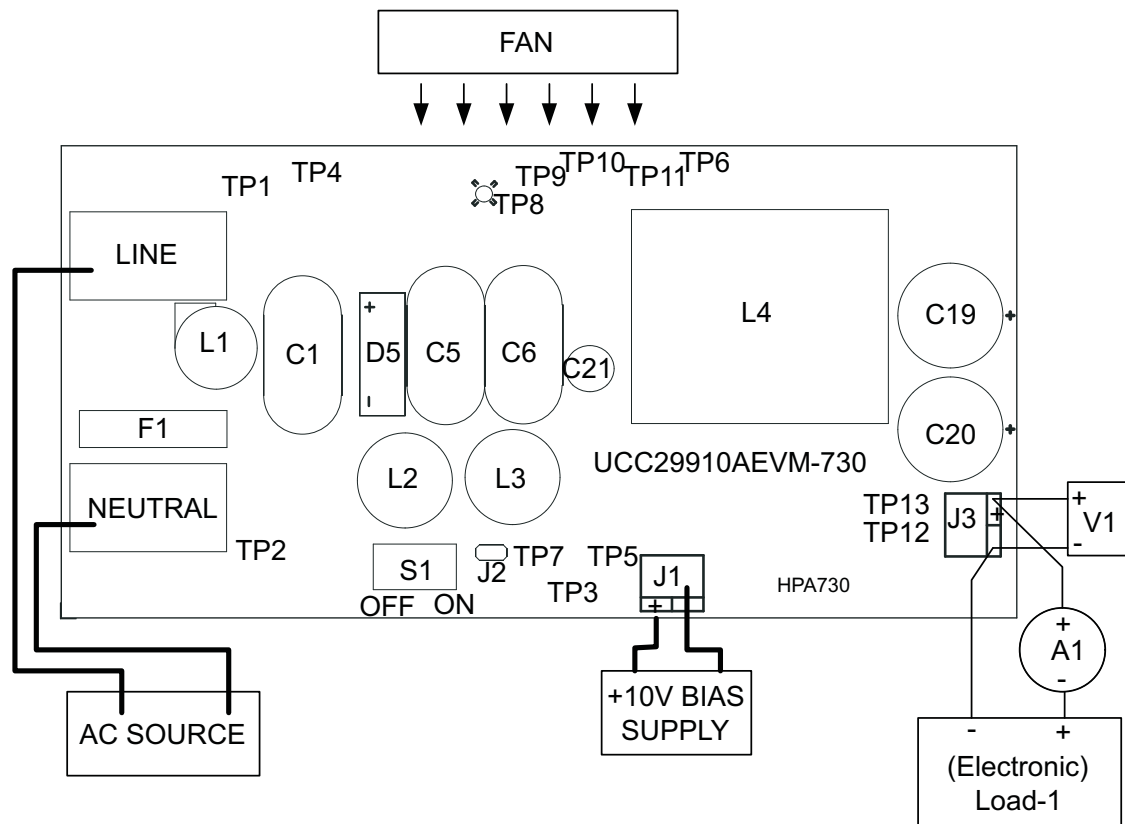

Figure 2. UCC29910AEVM-730 Recommended Test Set Up
Set up the EVM per Figure 2.
4. Prior to connecting the AC source, set the current to 2.5-A peak and 2.5-A limit. Connecting AC source to **LINE** and **NEUTRAL** terminals as shown in Figure 2.
5. Connect voltmeter V1 across the J3 as shown in Figure 2.